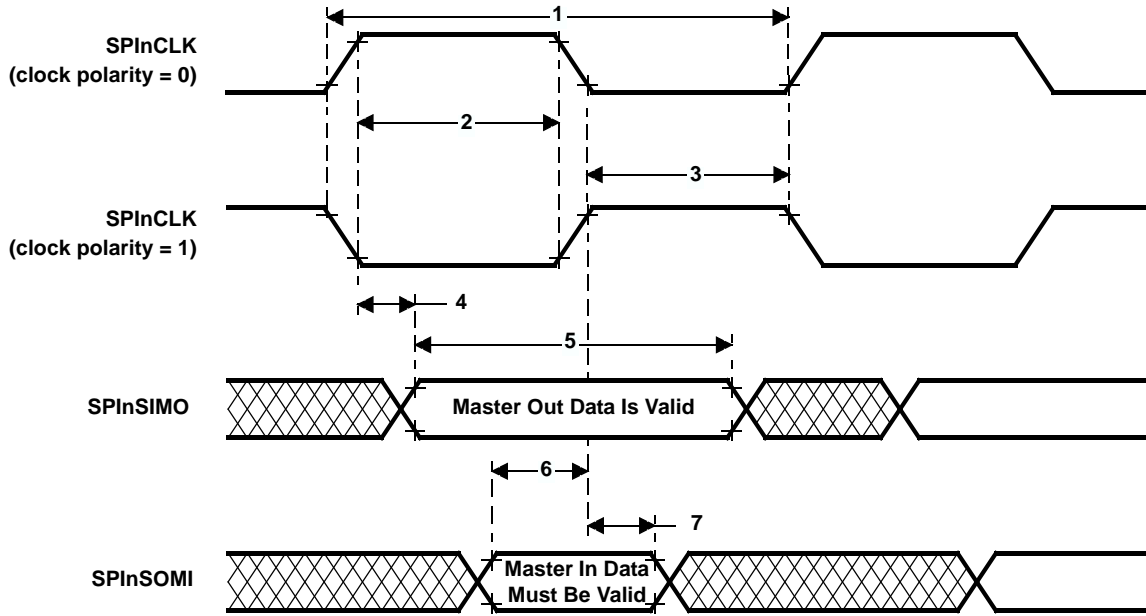

Figure 13. SPIn Master Mode External Timing (CLOCK PHASE = 0)
**SPIn master mode external timing parameters (CLOCK PHASE = 0, SPInCLK = output, SPInSIMO = output, and SPInSOMI = input)(1)(2)(3) (see Figure 13)**